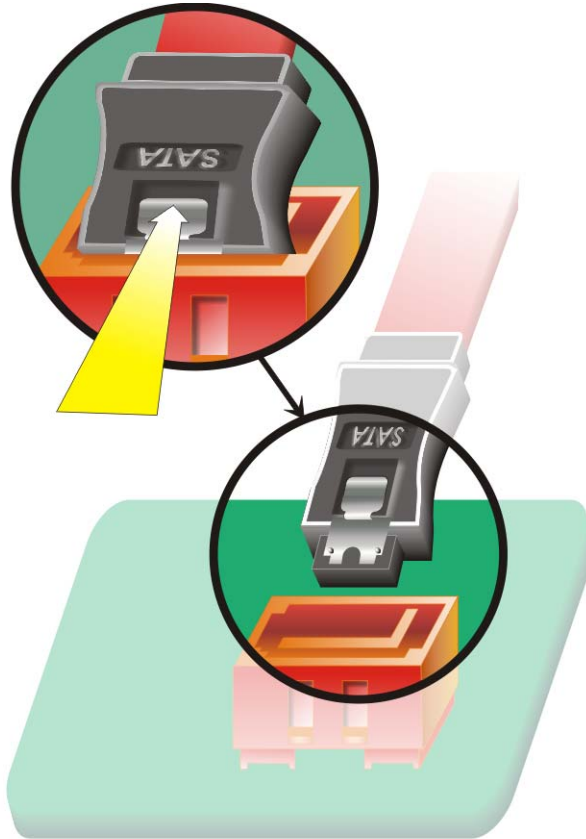

Figure 5-8: SATA Drive Cable Connection
Step 2: Press the clip on the connector at the end of the SATA cable and insert the cable connector into the on-board SATA drive connector (**Figure 5-8**).